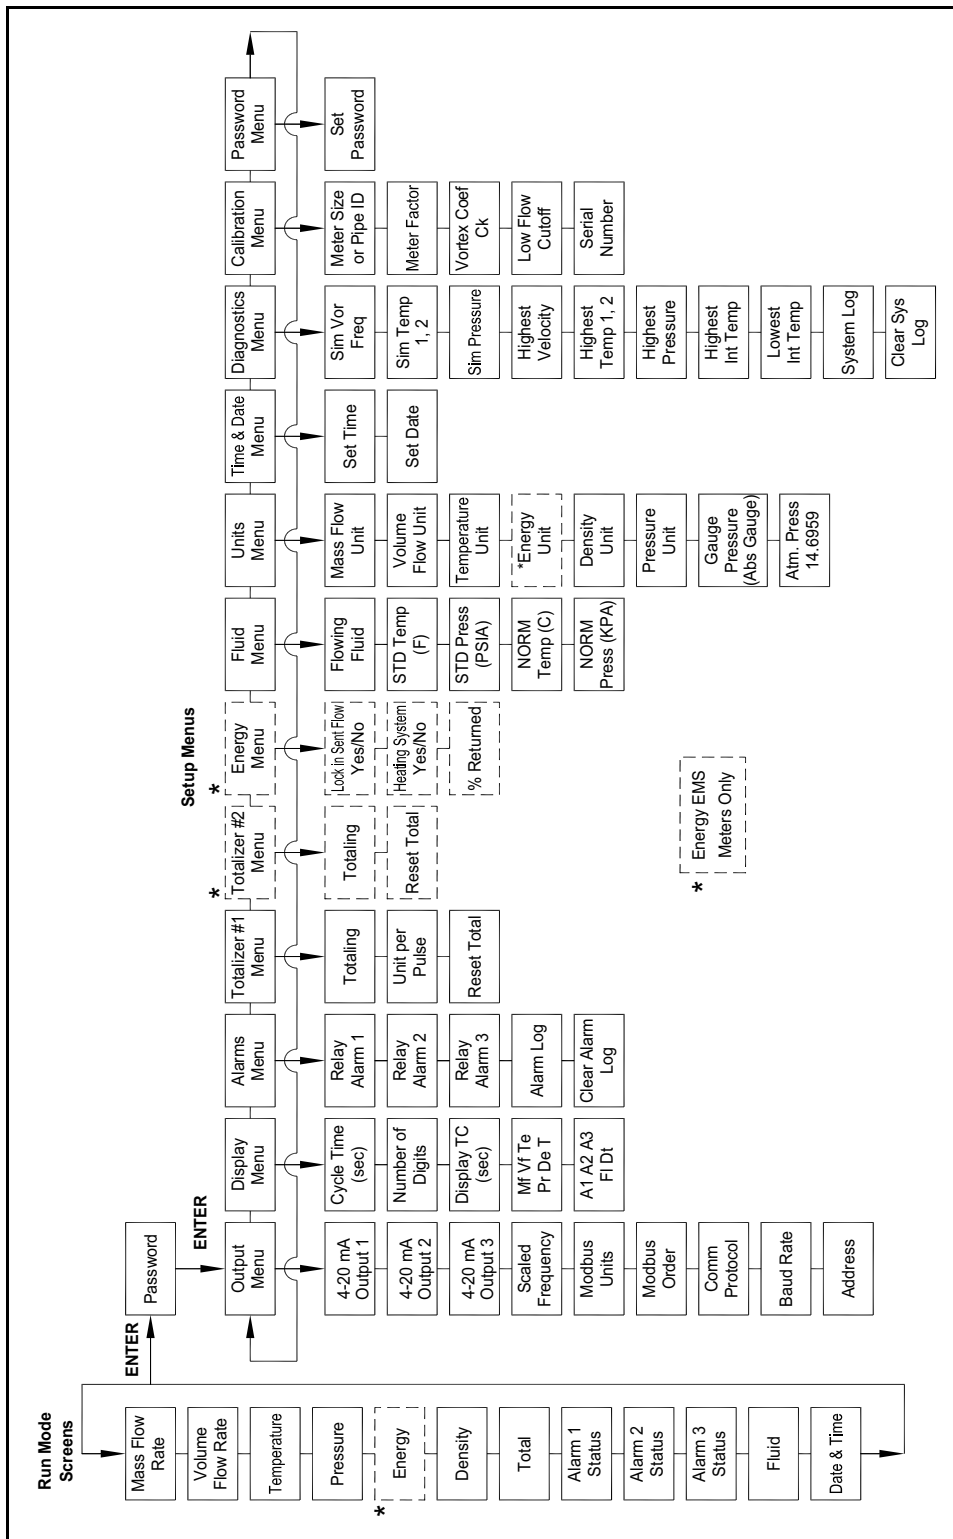

Figure 54: Complete Map of Setup Menus
3. Use the Setup Menus described on the following pages to customize the multi-parameter features of your PanaFlow meter. The entire lower display line is available for entering parameters. Some menus in *Figure 54* below may not be displayed, based on flow meter configuration settings